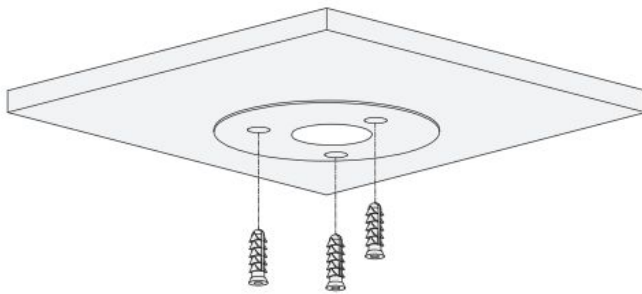

Figure 2-2
Step 2 Install the expansion screws. See Figure 2-2.